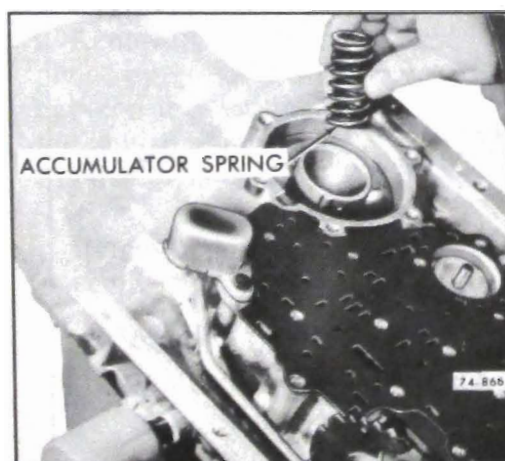

Figure 76-521
3. Remove servo accumulator spring. See Figure 76-521.